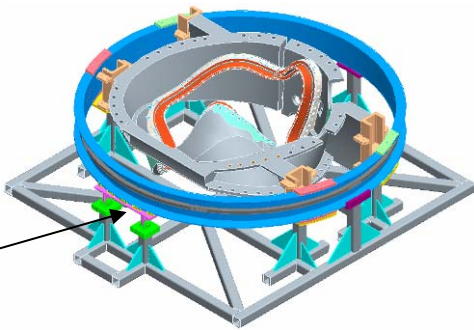

Figure 3- Install Support Ring
- Position a support ring into the assembly fixture around the casting, and secure the winding form and support ring together with support brackets. Note the orientation of the ring in relation to the lifting beam and pivot locations. (**Figure 3- Install Support Ring**)